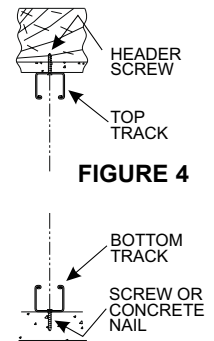

FIGURE 4
**Full Tracks (Figure 2):** Center upper track on header (Figure 4). Secure track to header, using three #10 x 1-1/4" pan head
screws (Figure 4). Set lower track directly below top track and attach to floor using #10 x 3/4" screws or concrete nails (Figures 2, 4). For a flush fit, set front of top and bottom track 5/8" in from the jamb face.
**Bottomless track (Optional; Figure 3):** Set upper track on header (Figure 4). Set bottomless track bracket on floor directly below top track. Fasten bottomless track bracket to wall using three #10 x 1-1/4" pan head screws (Figure 3). Secure to floor using #10 x 1-1/4" pan head screw (Figures 3, 4).